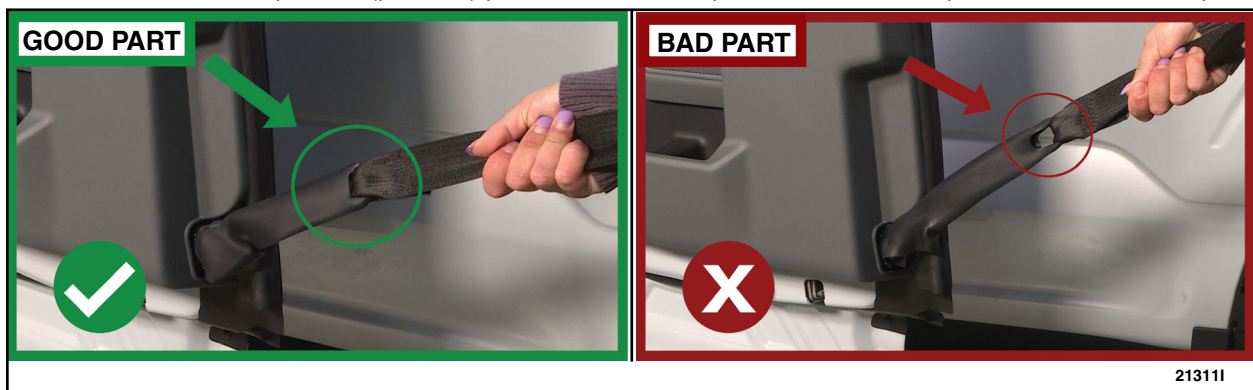

FIGURE 5
5. Make sure you are standing in a comfortable, well-balanced position and firmly grab the seatbelt strap just above the soft rubber trim sleeve with two hands. Strongly pull the seatbelt towards you while looking at the area where the seatbelt webbing loops through the sleeve. See Figure 5.